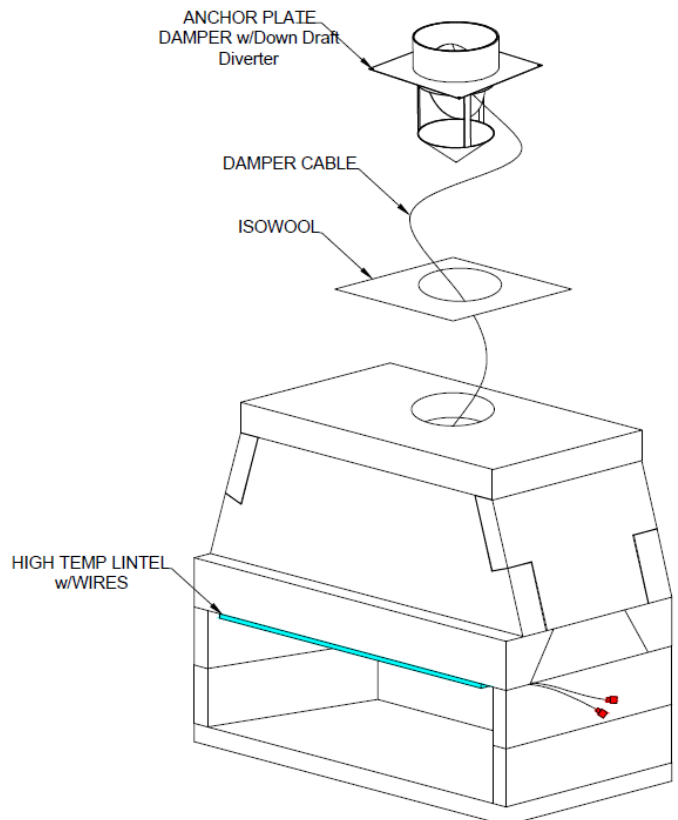
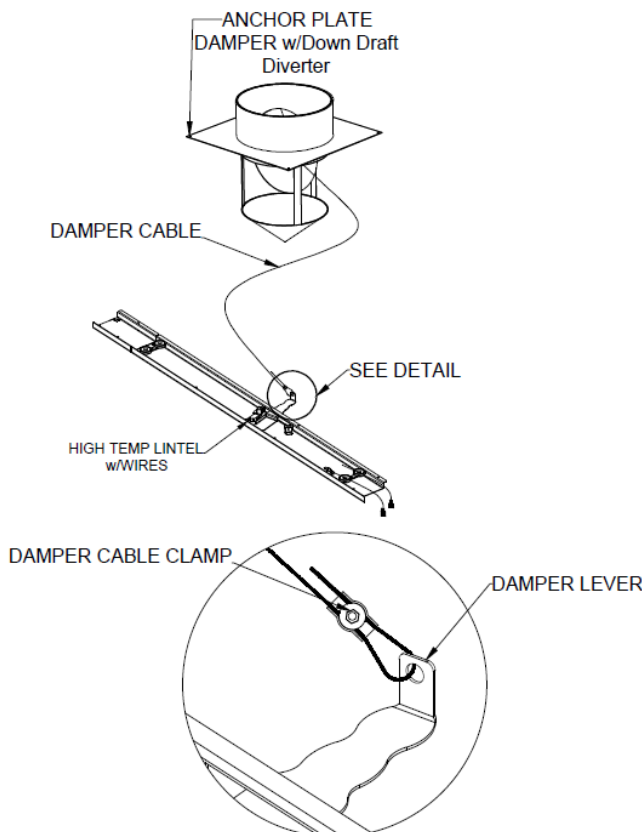

FIGURE 22
FIGURE 23
- 1) Mount Anchor Plate and Damper with Down Draft Diverter: Chimneys for all Maximus Linear fireplace systems must begin with an Anchor Plate and Damper with Down Draft Diverter. It is important that the surface of the Isokern chimney has a level surface on which to attach the Anchor Plate. If the top of the Isokern does not have a level surface, then it will need to be modified accordingly. **(Figure 22 & 23).**
- 2) Center the Isowool blanket over Isokern Top Plate's outlet and trace the outlet's outline with a pen or marker. Cut a hole in the blanket along this outline to match the hole in the Isokern top plate. Center the cut Isowool blanket over the Isokern Top Plate flue opening, then center anchor plate over the Isowool blanket **(Figure 22).**
- 3) Mount the Anchor Plate over Isowool blanket. The front of the Anchor Plate is labeled "FRONT" and must be towards the front of the fireplace. Secure the Anchor Plate with four (4) masonry anchors.
- 4) Secure the damper cable to the damper lever. Make sure when attaching the damper cable that the damper fully closes and cable is taut when turning the lever all the way to the right. This will require loosening the damper cable clamp and adjusting damper cable length. Retighten cable clamp and trim excess cable if needed. **(Figure 23).**